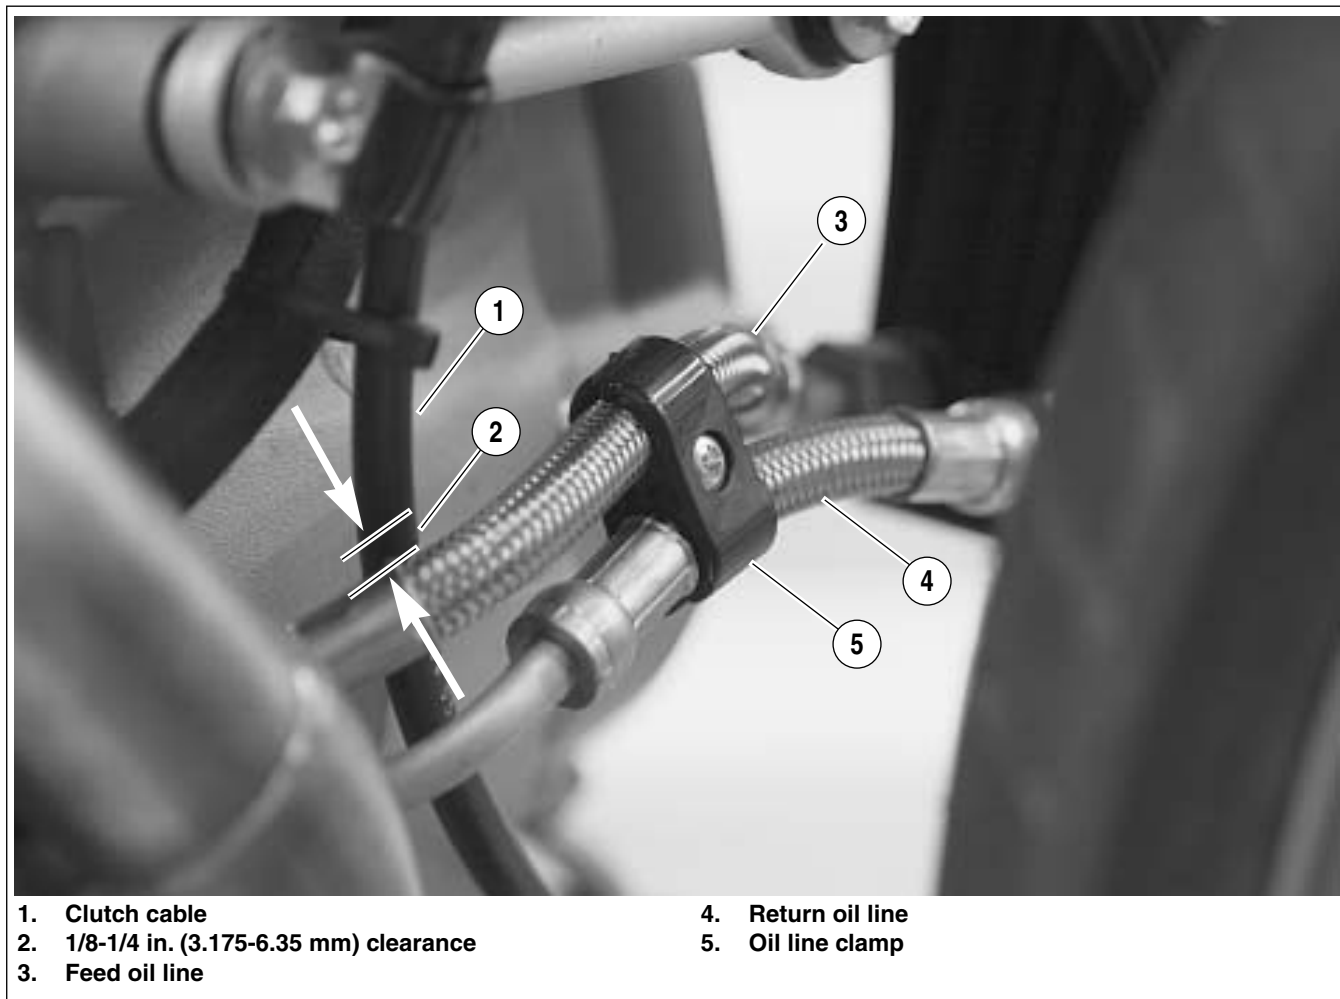

Figure 3-112. Oil Cooler Oil Lines and Clamp
3. After the oil cooler is in place, apply Loctite 272 to the two fasteners (6) and tighten to 120-144 **in-lbs** (13.6-16.3 Nm).
4. Apply Loctite 272 to the stabilizer bracket fastener (8) and tighten to 66-78 **in-lbs** (7.5-8.8 Nm).
5. Install oil cooler scoop and apply Loctite 272 to the two fasteners (10) and tighten to 120-144 **in-lbs** (13.6-16.3 Nm).
8. See Figure 3-112. Verify that the clutch cable and feed line have a clearance of 1/8-1/4 in. (3.175-6.35 mm) between them.